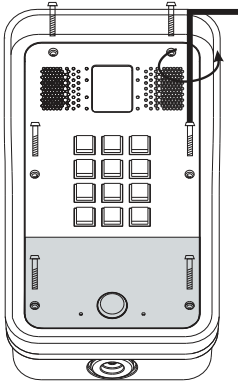
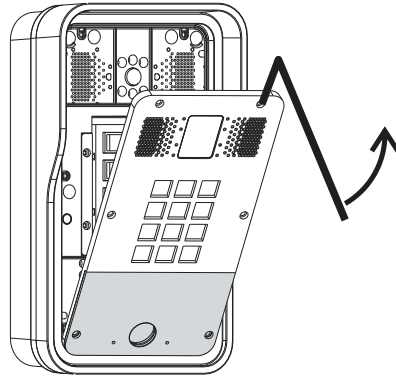

Figure 3
Figure 4
A. With hex wrench, remove the front panel as shown in Figure 3. (Turn counter-clockwise) and Figure 4. Step 3: Removing Front Panel